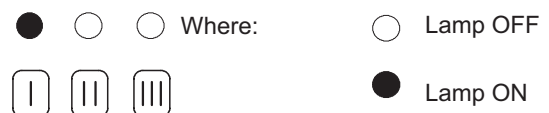

Figure 8.21
- 6 The lamps F should give the indication as in Figure 8.21. If not, press the reset button repeatedly to obtain it.